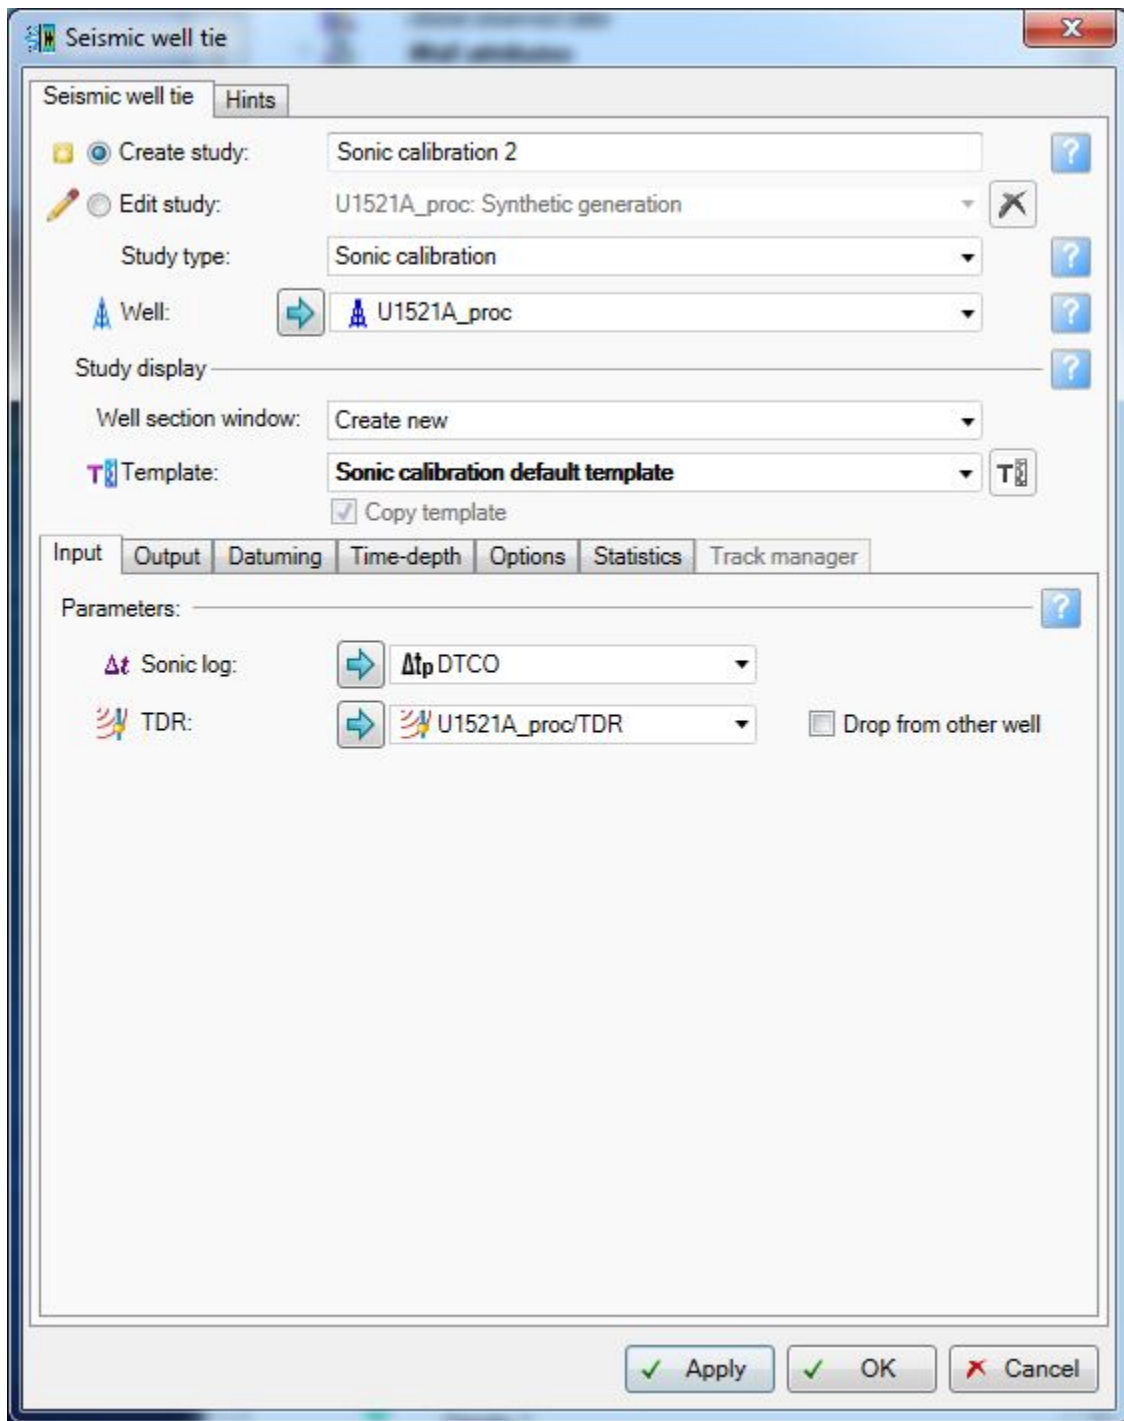

Figure 2: Seismic well tie window configured for creating a new sonic calibration study.
2. In the Seismic well tie dialog box that appears, select Sonic calibration from the Study type dropdown list. Select the well or borehole to use (*Figure 2*).
3. For the template field, select the Sonic calibration default template (Figure 2).
In the input tab, select a delta-t compressional or velocity data. The initial TDR can also be a velocity data (stacking, wireline, or laboratory/core) (Figure 2).